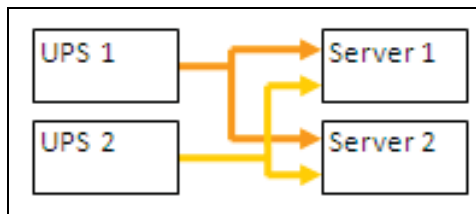
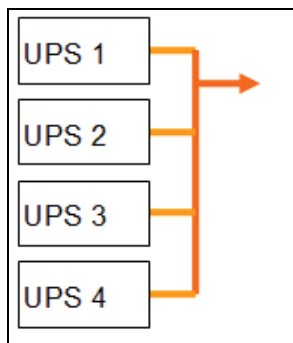

Figure 168. Redundant Supplies
Figure 171. Parallel Redundancy Schema
Figure 168 to Figure 171 illustrate the electrical redundancy topologies.
- **Redundant supplies (such as dual feeds or triple feeds):** Figure 168 illustrates a scenario when two UPSs provide power to one or several multiple-feed servers.
- **Parallel for two or more components:** All the UPSs power the load at the same time (see Figure 171).